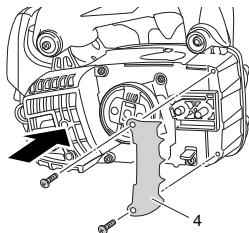

Fig. 3
\* In case of installing the spiked bumper (4), install the spiked bumper (4) to the unit with two screws. (**Fig. 3**)